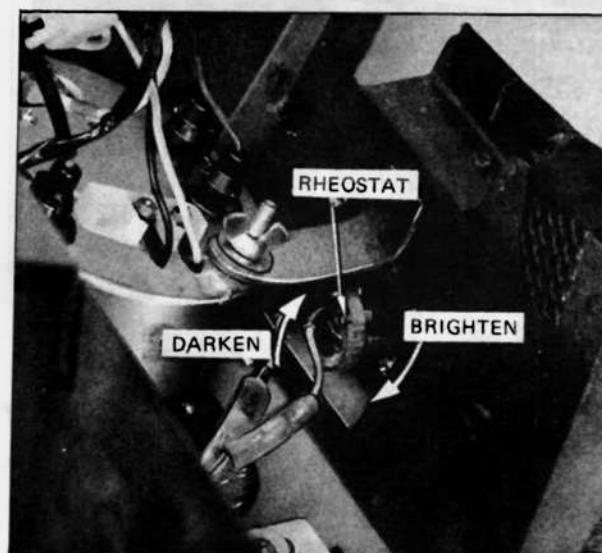

Fig. BE-23 Removing illumination control
ammeter and fuel gauge unit, remove the meter bracket and remove hexagonal cross-headed screws [① and ② Figure BE-23] from reverse side of the meter.